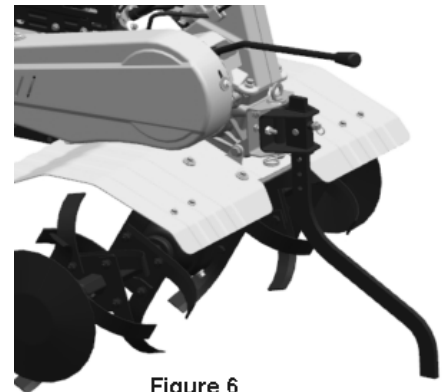

Figure 6
- By adjusting height of damping lever, tilling depth can be adjusted. Specifically, adjusting the lever downward will increase tilling depth, and adjusting it upward will decrease tilling depth. (See Fig.6)